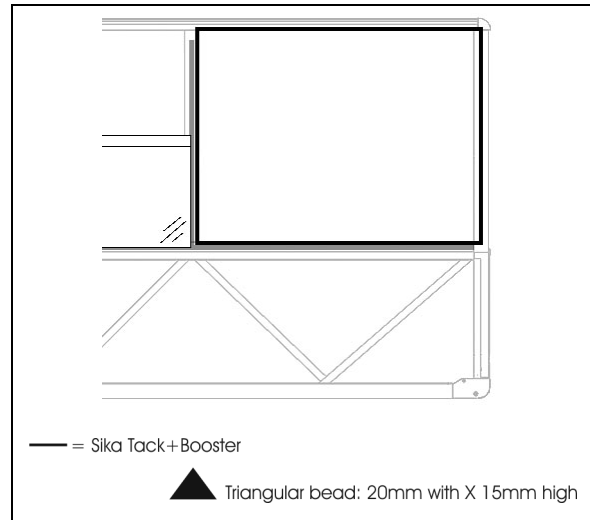
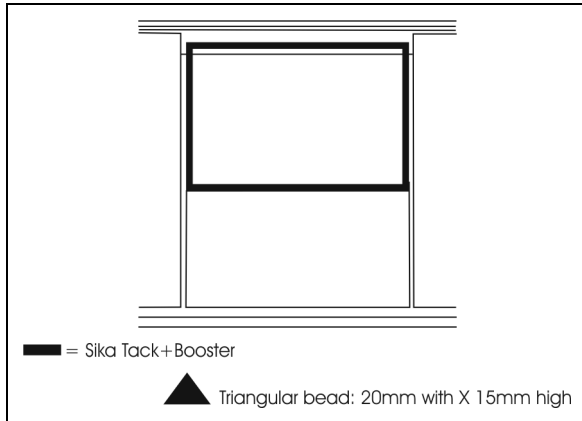
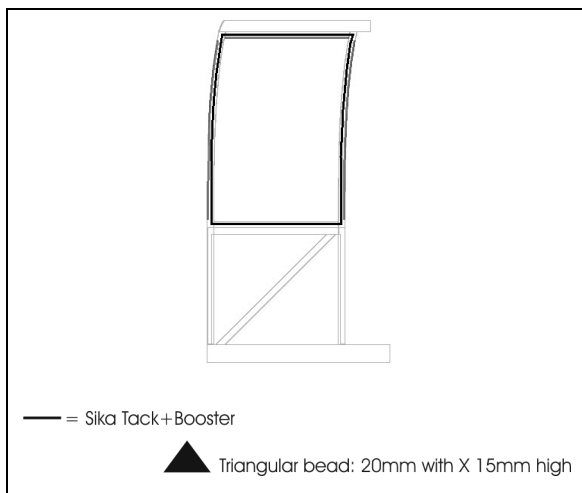

FIGURE 56 : FACE FIXED WINDOW INSTALLATION - SIKA TACK+BOOSTER
FIGURE 57 : FACE FIXED HALF-WINDOW INSTALLATION – SIKA TACK+BOOSTER
FIGURE 58 : SIDE FIXED WINDOW – SIKA TACK + BOOSTER
6. Apply Sika Tack+Booster as per FIGURE 56 FIGURE 57 or FIGURE 58 (triangular bead: 20mm width X 15mm high).